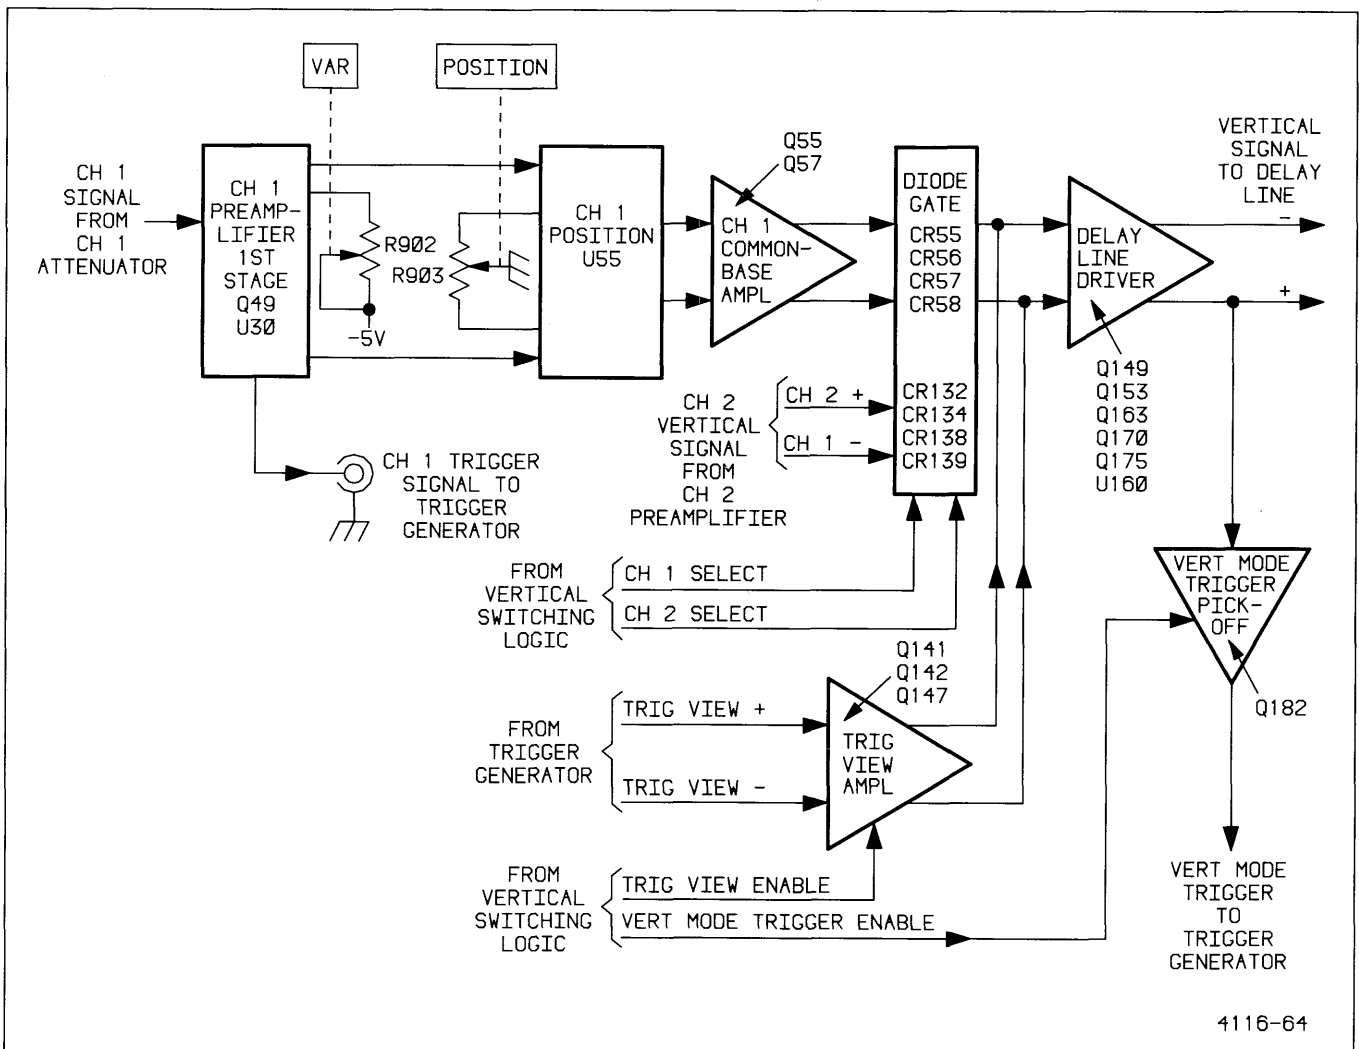

Figure 3-3. Vertical Preamp, Diode Gate, and Delay Line Driver, simplified block diagram.
Channel 1 and Channel 2 Vertical Preamplicifiers are shown on schematic diagram 2. They are identical with the exception of the added inverting feature in the Channel 2 circuitry. Complete Channel 1 circuit operation is described, along with the Channel 2 differences. A simplified block diagram of the Vertical Preamplicifier circuitry is shown in Figure 3-3.
**TRIG VIEW DISPLAY.** While the TRIG VIEW push button is pressed in, both Diode Gates are biased off, and the Trigger View Amplifier (shown in Figure 3-3) is enabled to pass the A Trigger View signal to the Delay Line Driver.